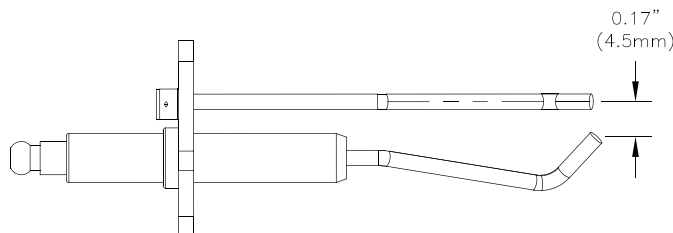

Figure 59: Igniter Electrode Gap
4. Remove the igniter assembly and flame sensor and inspect them for oxide deposits. Clean the oxide deposits from the igniter electrodes and flame sensor rod with steel wool. Do not use sandpaper for the cleaning. Inspect the ceramic insulators for cracks and replace the igniter assembly and/or flame sensor if necessary. Check the igniter electrode spacing gap. Refer to Figure 59 "Igniter Electrode Gap" for details.